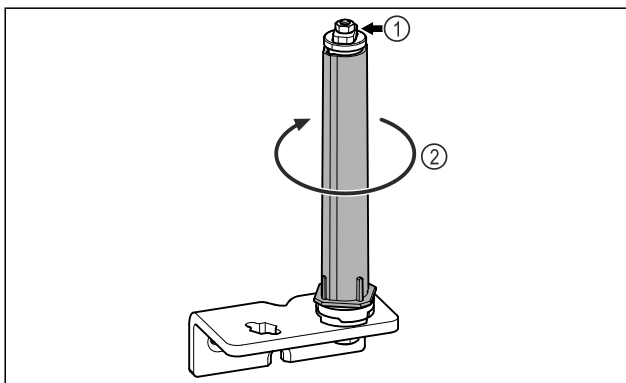

Fig. 21
- Do not disassemble the door locking system *Fig. 21 (1)*.
- Turn the locking system *Fig. 21 (2)* until it clicks.